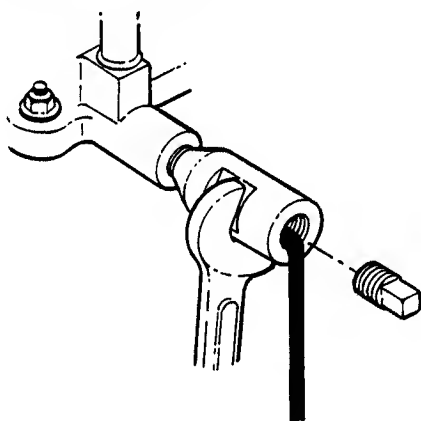

FIGURE 12
4. Loosen oil fill cap on top of engine then remove oil drain plug. See Figure 12.